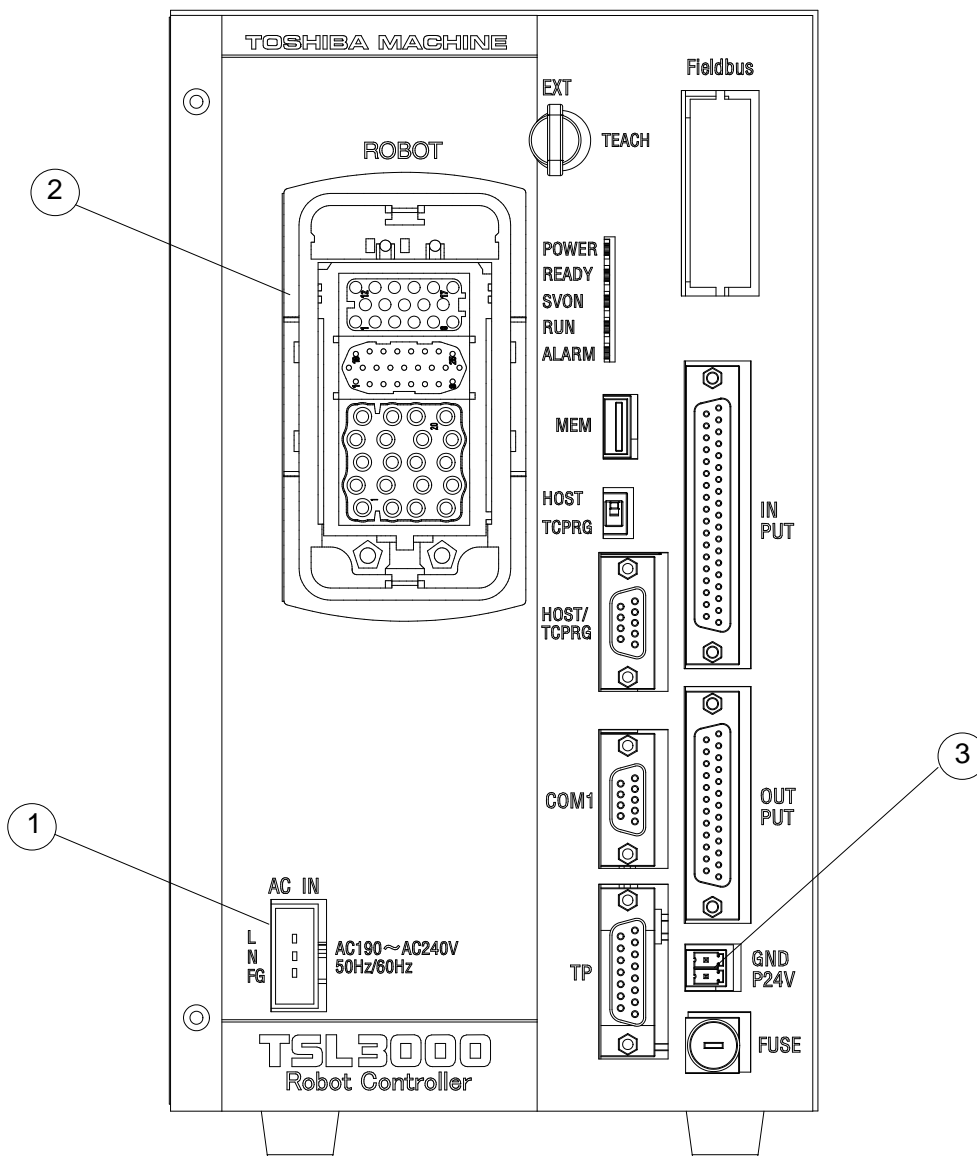

Fig. 13.1 Robot controller connector arrangement (TSL3000)
The cables connected to the robot controller are shown in Fig. 13.1.
(① of Fig. 13.1) (Plug connector attached)
The connector is ACIN (① of Fig. 13.1).
13.1.3 Connecting the Motor Cable "ROBOT" (Ⓢ of Fig. 13.1) (THL300 to THL1000)
#### 13.1.4 Connecting the Encoder Cable "ROBOT" (② of Fig. 13.1)
#### 13.1.5 Connecting the Robot Control Signal Cable "ROBOT" (② of Fig. 13.1)
#### 13.1.6 Connecting the Brake Signal Cable "ROBOT" (② of Fig. 13.1)
13.1.7 Connecting the External Input/Output Power Cable "GNDP24V" (③ of Fig. 13.1)